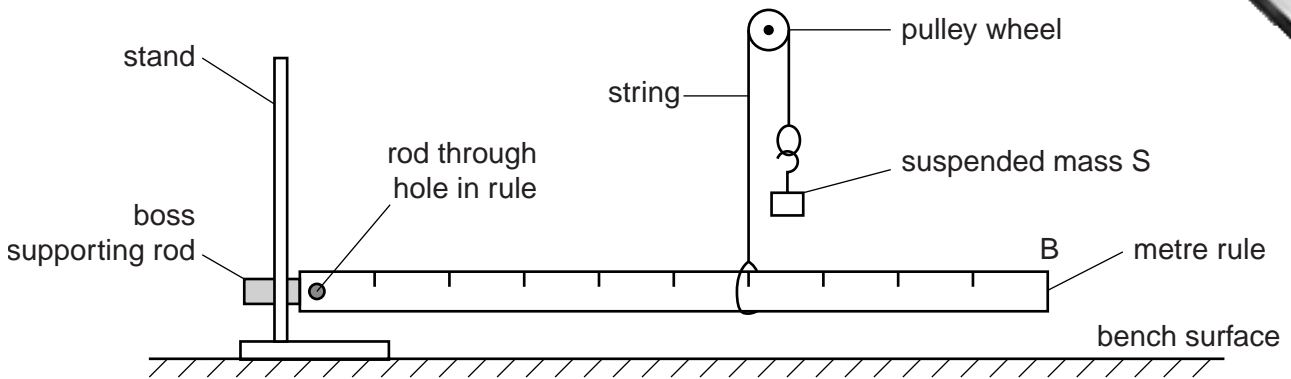

Fig. 1.1
5. The Supervisor should tie a fixed loop at each end of the string. One loop should be of a size so that it can easily pass around the metre rule. The second loop will pass over the pulley wheel. The **candidates** will set up the apparatus as shown in Fig. 1.1.